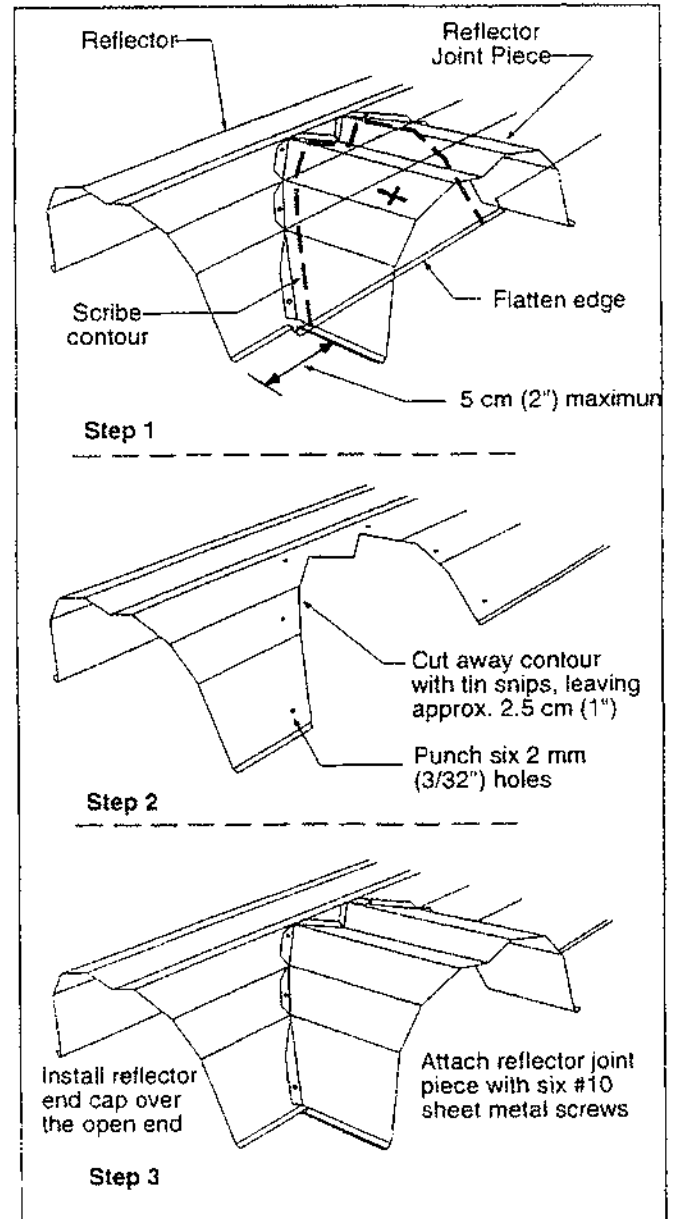

Figure 12. Reflector Joint Piece Installation
2. Cut away the reflector to clear the tube, leaving about one inch of material inside the scribed contour to attach the accessory joint. With an awl or other pointed tool, punch six 3/32" (2 mm) diameter holes in reflector in the positions shown in Figure 12.